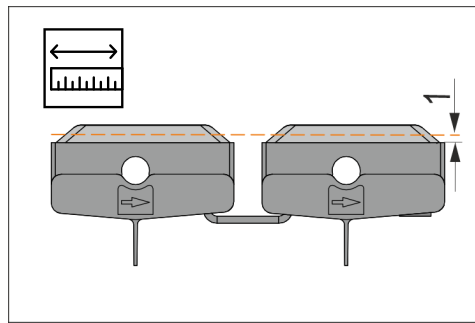
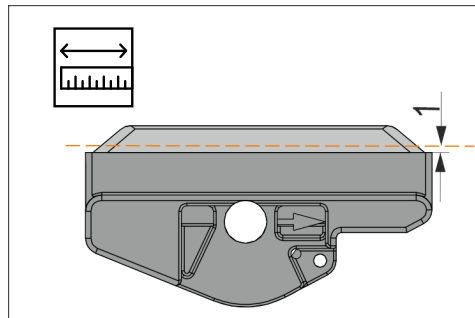

Fig. 89: PH double current collector wear limit
Fig. 90: PH single current collector wear limit
- PH current collector: 1 mm (see *Fig. 89* and *Fig. 90*)
- PH current collector wear limit: 1 mm (see *Fig. 89* and *Fig. 90*)